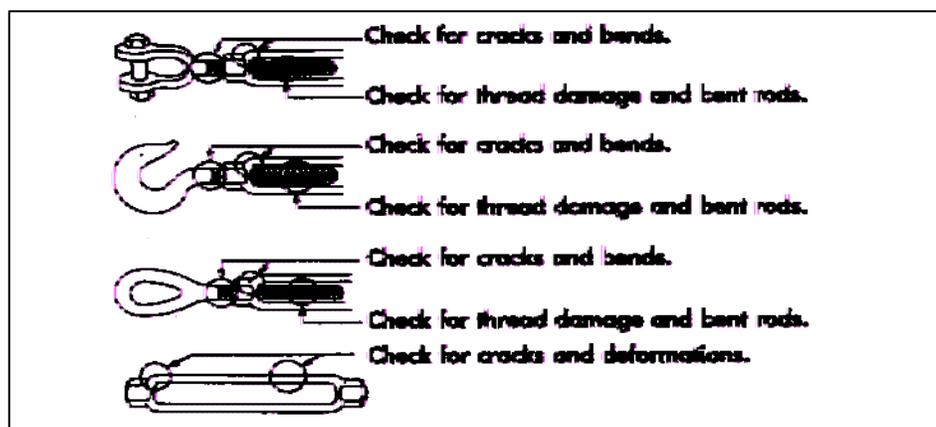

Figure 5.28-3 - Bottle Screw Inspection Areas
- c. Bottle screws should be checked for cracks in end fittings, deformed end fittings and bent rods in association with Fig. 5.28-3.